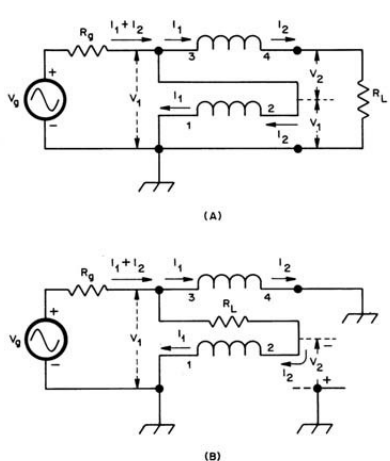

Figure 5 · Ruthroff's 1:4 transformer, (A) as an unun and (B) as a balun.
Figure 5 shows the schematics of Ruthroff's 1:4 TLTs. (A) is his 1:4 unun, with terminal 2 connected to the input terminal 3, thus raising this transmission line by the input voltage V_i . This is called the "Bootstrap Effect." The output voltage V_2 is delayed as it travels the transmission line. Because of this, Ruthroff's 1:4 design does not have the high frequency response of Guanella's, but if the transmission lines are short compared to the wave length, Ruthroff's design is practical.
Figure 5(B) shows Ruthroff's 1:4 balun, first acting as a phase inverter, followed by R_L between terminals 3 and 2 to become a 1:4 balun. This configuration also adds a direct voltage to a delayed voltage, limiting its high frequency performance.